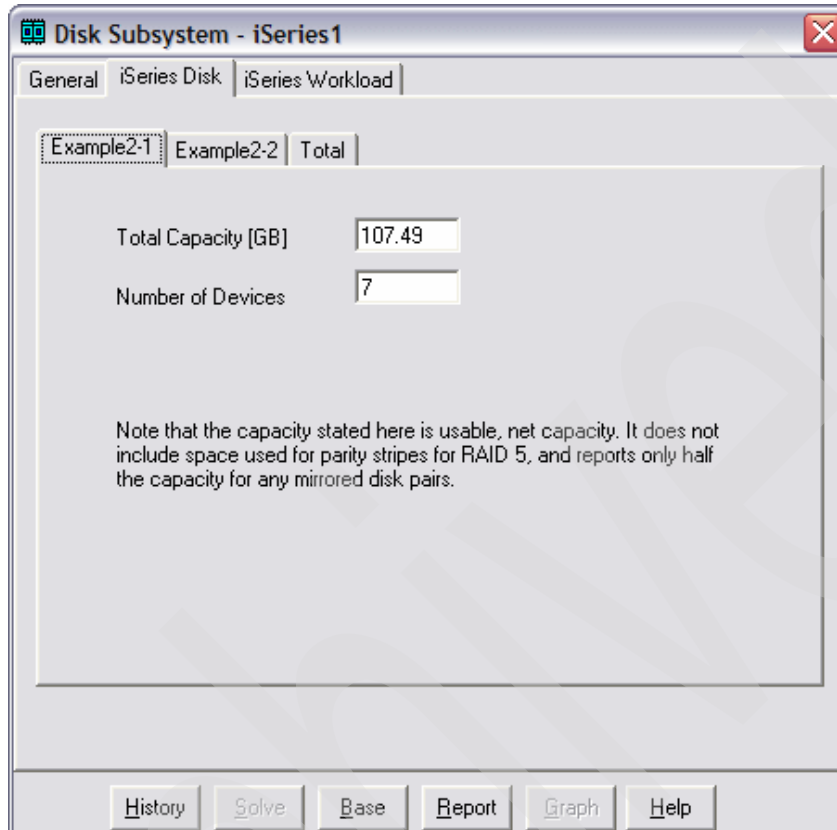

Figure 4-52 Current capacity of the first i5/OS system
5. In the Disk Subsystem - iSeries1 window (Figure 4-52), select the iSeries Disk tab. Notice that the two subtabs on the iSeries Disk tab and that each shows the current capacity for the internal disks of one workload.